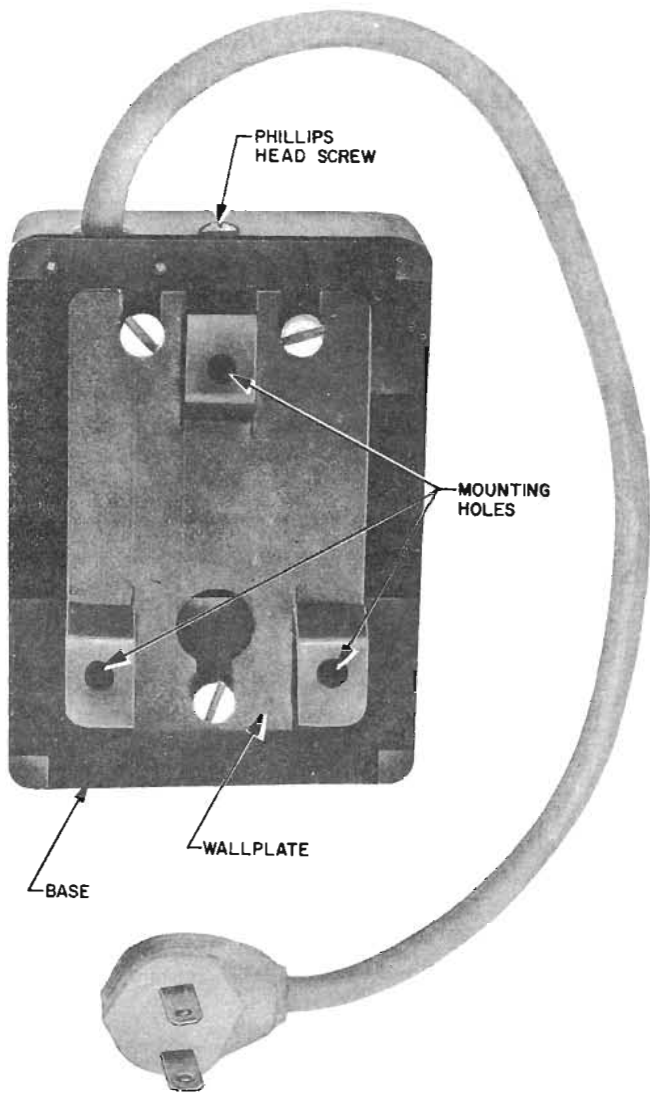

Fig. 3 — J87202A, List 1 Rectifier, Back View
2.04 Components of rectifier are mounted on a base and protected by a metal cover. Two Phillips head screws hold cover on base. An attached wallplate (Fig. 3) is used to mount rectifier on a vertical surface.